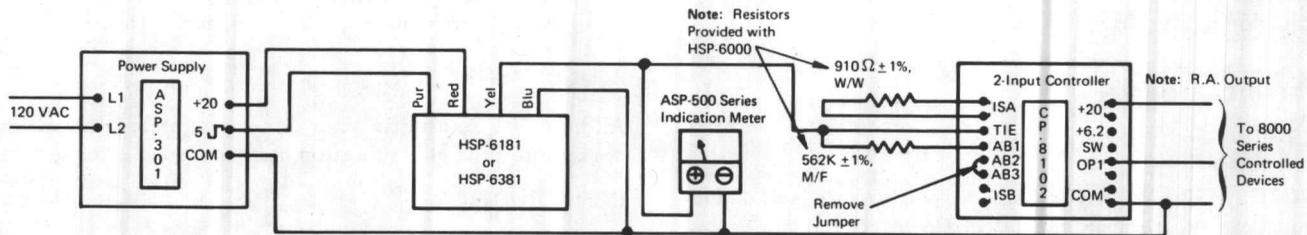

Figure 3
See Figure 3 for template dimensions for mounting.
6. Turn dial knob to desired setting. If locked dial setting is desired, remove dial knob, tighten the dial lock screw and replace knob (see Figure 3).